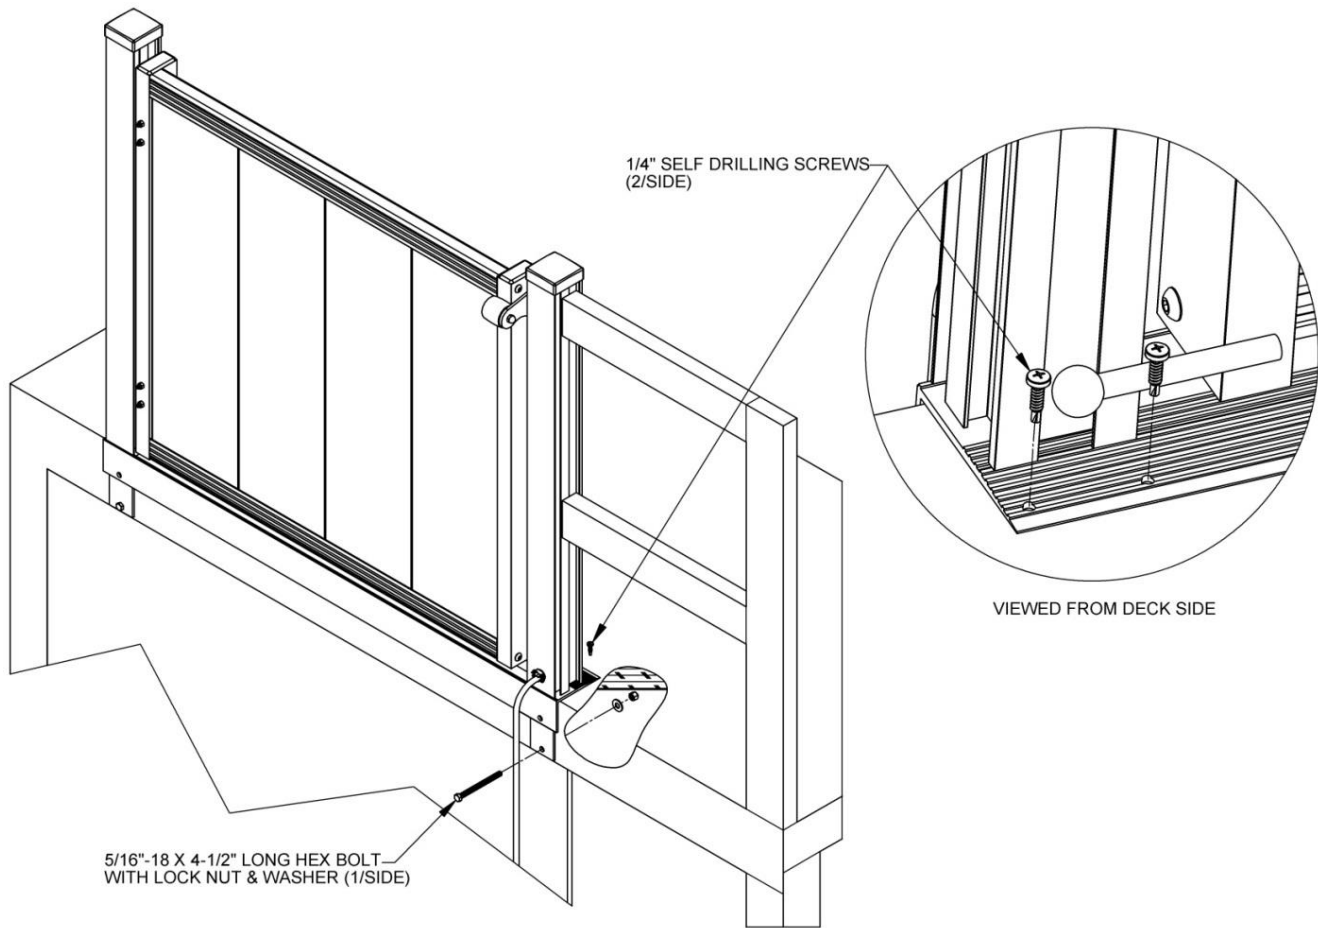

FIG. 6.3
7. Once the Top Landing Gate is positioned correctly it can be attached to the porch or deck. The Top Landing Gate will come with four 1/4" self-drilling screws for attaching the Top Landing Gate sill to the deck surface and two 5/16"-18 x 4-1/2" long hex bolts for attaching the Top Landing Gate sill to the deck fascia (FIG. 6.3). If the Top Landing Gate is being attached to a concrete porch or deck these screws and bolts will need to be replaced with concrete anchors and alternate fasteners of the same size (not included).